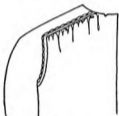

FIGURE 158
*Making the Epaulet Sleeve* (Figure 158). — Holding the garment toward you, match the notches and pin the epaulet to the garment. Then, working with the sleeve held toward you, pin and baste the armseye seam. Stitch  $\frac{1}{2}$  inch from the edge,